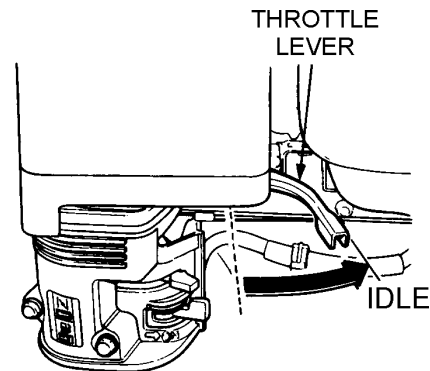

Figure 20. Throttle Lever (Idle)
1. Move the throttle lever to the **idle** position (Figure 20) and run the engine for three minutes at low speed.